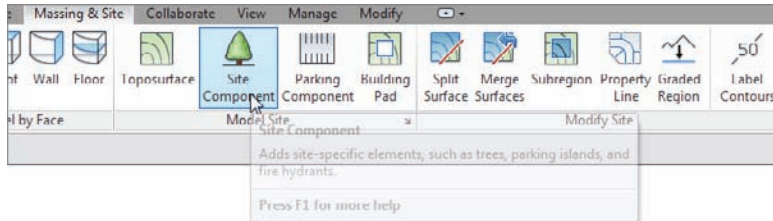

FIGURE 18.14 The Site Component button
6. On the Massing & Site tab, click the Site Component button, as shown in Figure 18.14.